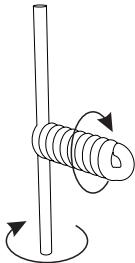

Figure 8.
9. As soon as the load (3) stops rotating, lift it to check if loops build up on the finished rope. Such loops can be eliminated by forced rotation of the load (3) in a free state in either direction, until the loops don't build up any longer. The load's rotation direction corresponds to the direction of a loop unwinding (fig. 8).
12. As soon as the load (3) stops rotating, lift it to check if loops build up on the finished rope. Such loops can be eliminated by forced rotation of the load (3) in a free state in either direction, until the loops don't build up any longer. The load's rotation direction corresponds to the direction of a loop unwinding (fig. 8).